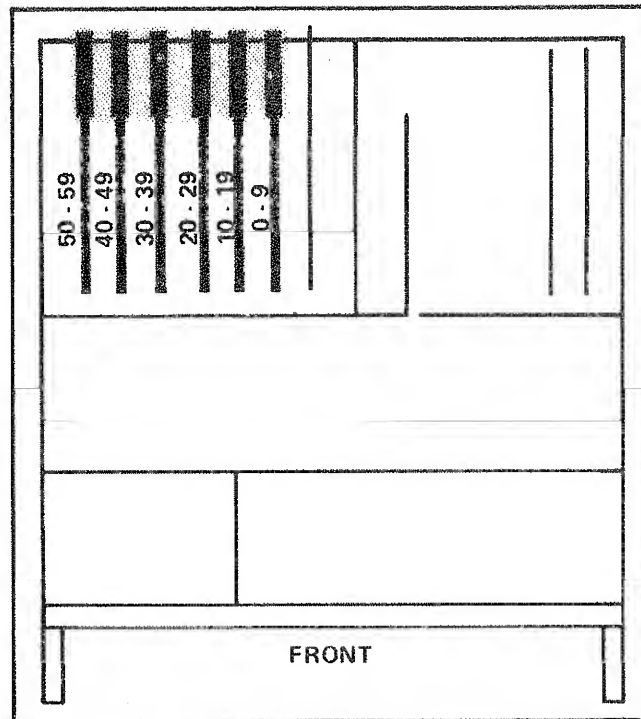

Figure 628-3.
2. Locate the desired scanner-block slot on the rear panel and check to ensure that a scanner is installed in the slot. See Figure 628-3 for scanner block arrangement in the 2240C data logger.